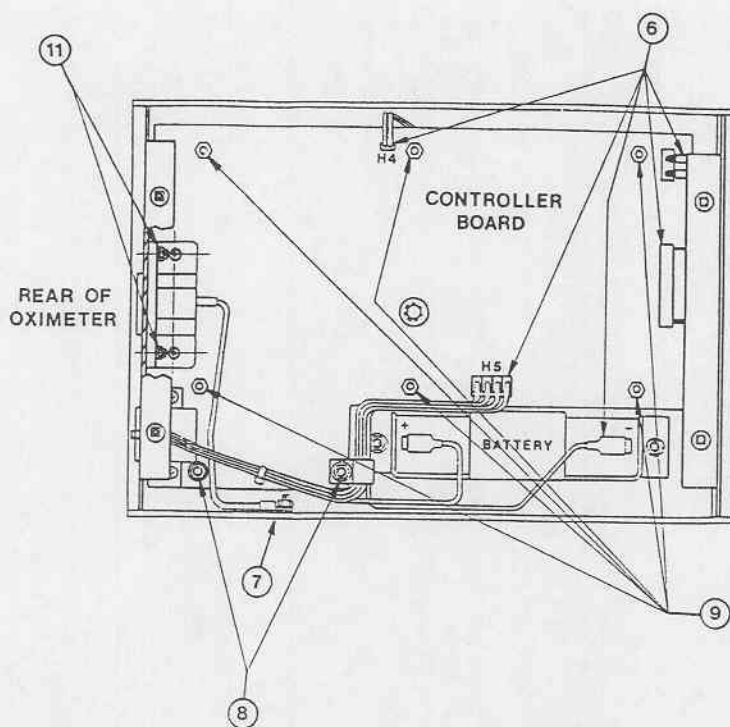

Figure 12. Remove the Controller board hardware.
6. Refer to Figure 12. Remove the cables connected to H4 and H5 of the Controller board. Remove the cable connected to H1 and H4 of the Display board. Remove the two slip-on connectors from the battery.
7. Refer to Figure 12. Remove the nut (1/4") and lockwashers that secure the earth ground cable to the bottom cover. Remove the ring terminal from the stud on the bottom cover.
8. Refer to Figure 12. Remove the two (1/4") nuts and lockwashers and 1 cable clamp from the Controller board.
9. Refer to Figure 12. Remove the six (1/4") nylon standoffs that secure the Controller board to the bottom cover.
11. Refer to Figure 12. Remove the two (1/4") nuts and lockwashers that secure the AC Input connector to the rear panel. Lift the controller board from the rear panel.